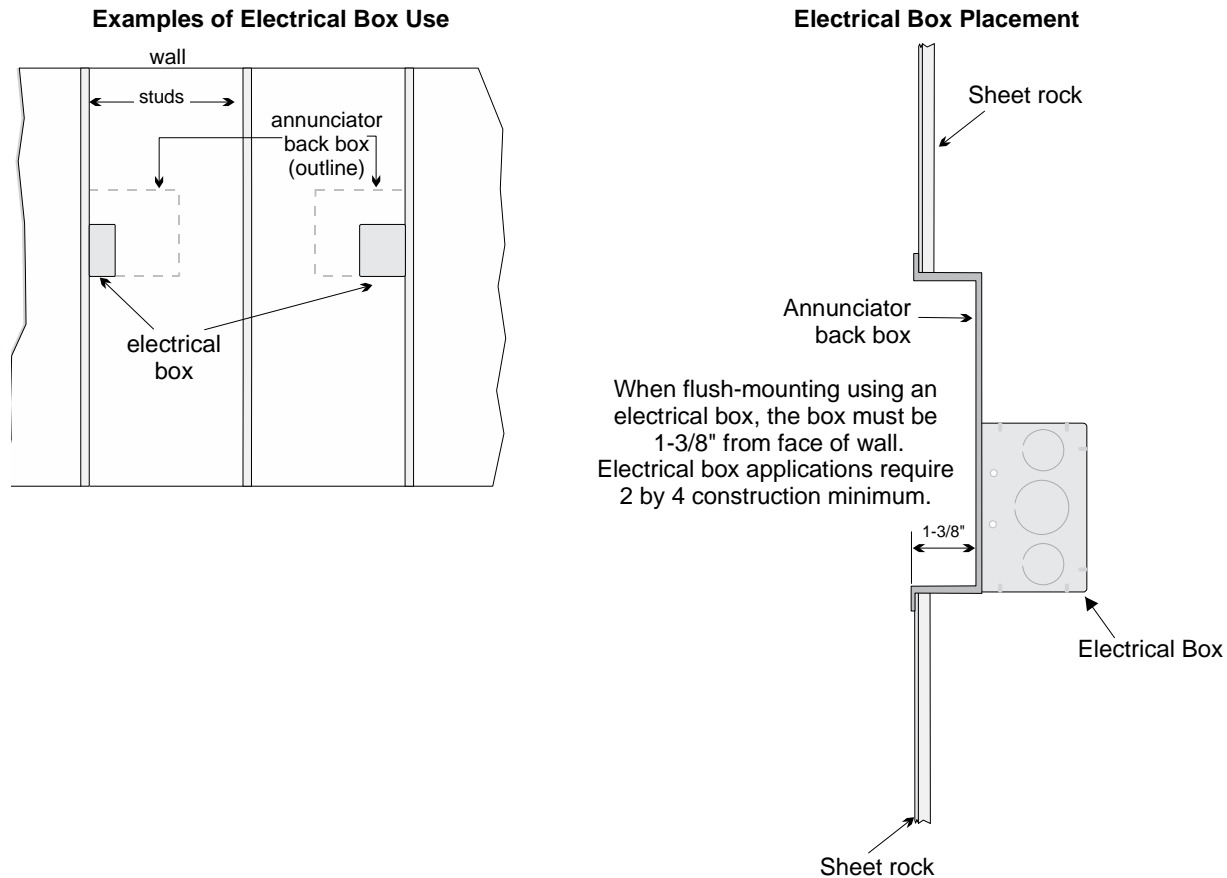

Figure 4-13 Placement of Electrical Box for Flush Mounting
1. Cut a hole in the sheet rock to the following dimensions: 8-1/4" w x 6-5/8" h. If an electrical box is used, the box must be 1-3/8" back from face of wall to accommodate the annunciator (see Figure 4-13).